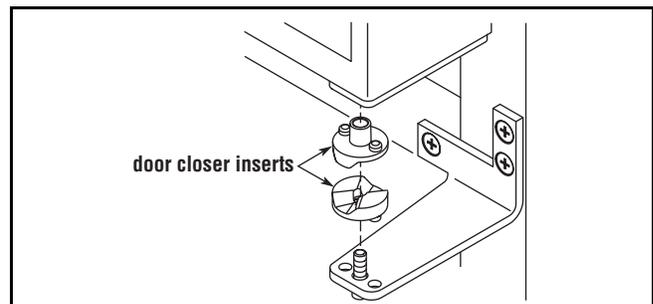

Figure 10
4. Remove the two door closer inserts from the existing bottom hinge and install as shown on the new bottom hinge (**Figure 10**).